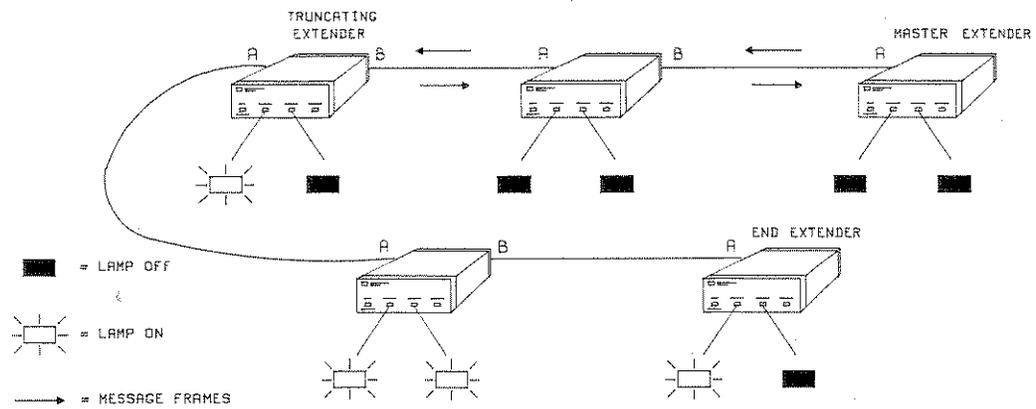

Figure G1-1 Locating a Truncating Extender
2. *Truncation feature enabled on all Extenders.* Locate the truncating Extender (Figure G1-1):